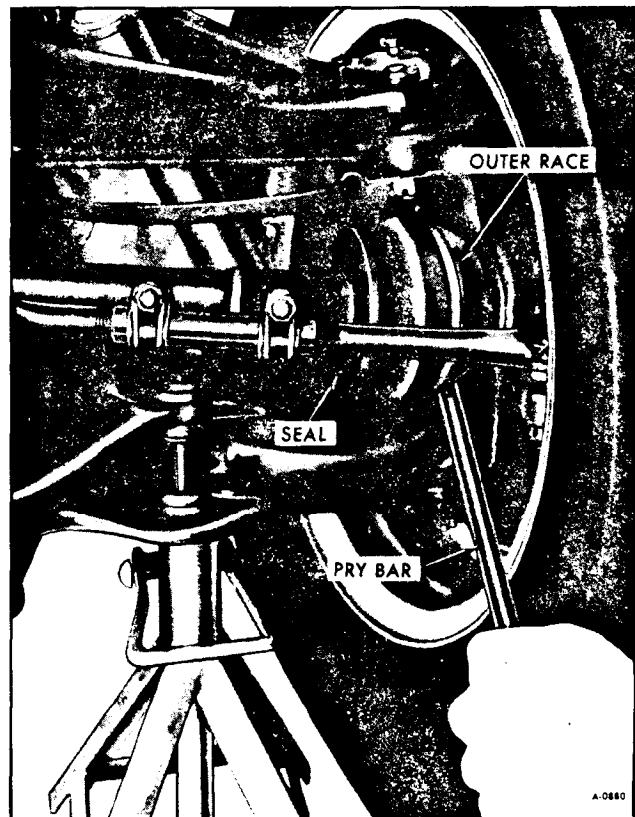

Figure 26—Pry Bar Installation
3. Place a pry bar as shown in Figure 26 and pry down on bar. Care must be used so that drive axle seal is not damaged. Reading must not exceed .125"